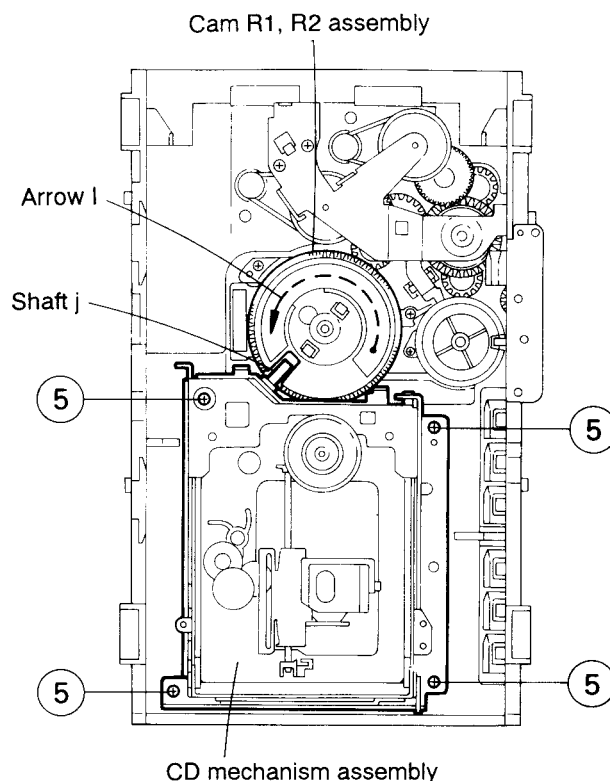

Fig. 5-39
## ■ Removing the CD mechanism assembly (See Fig. 5-39)
1. While turning the cams R1 and R2 assembly in the arrow direction (I), align the shaft (J) of the CD mechanism assembly to the position shown in Fig. 5-39.
2. Remove the four screws (5) retaining the CD mechanism assembly (See Fig. 5-39).